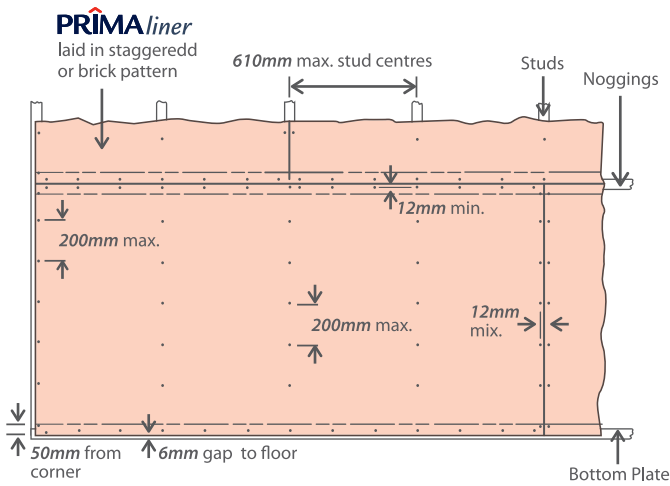

Figure 1: Horizontal Sheet Fixing
**PRIMAliner** sheet may be fixed horizontally or vertically. For residential construction, horizontal fixing is more convenient. Refer **Figure 1**.